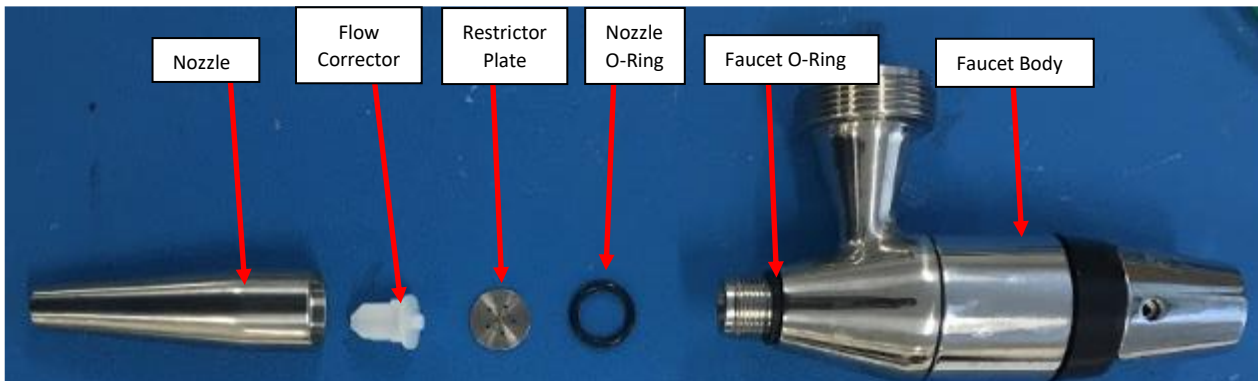

Figure 19: *Faucet anatomy.*
6. Depressurize the unit and Remove faucet nozzle and check restrictor plate for blockage. **See Figure 19.**
- iii. Remove the faucet nozzle and clean the restrictor plate. **See figure 23.** Remove the O-Ring with an O-Ring Pick, Clean the restrictor Plate and reassemble. Be careful not to lose any components. **See Figure 19** for Nozzle Components.
3. If the settings are within nominal settings and the drink Foam Level is too **LOW** and rapidly disappearing, remove the faucet nozzle and clean the restrictor plate. See **figure 27**. Remove the O-Ring with an O-Ring Pick, Clean the restrictor Plate and reassemble. Be careful not to lose any components. See **Figure 19** for Nozzle Components.